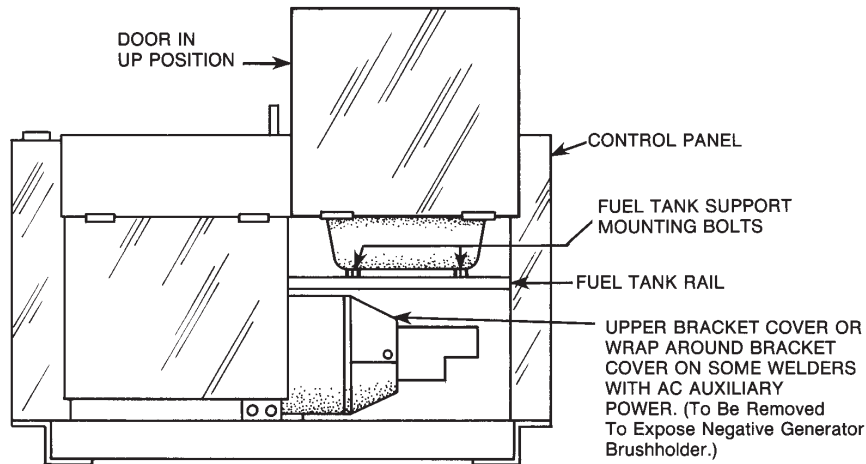
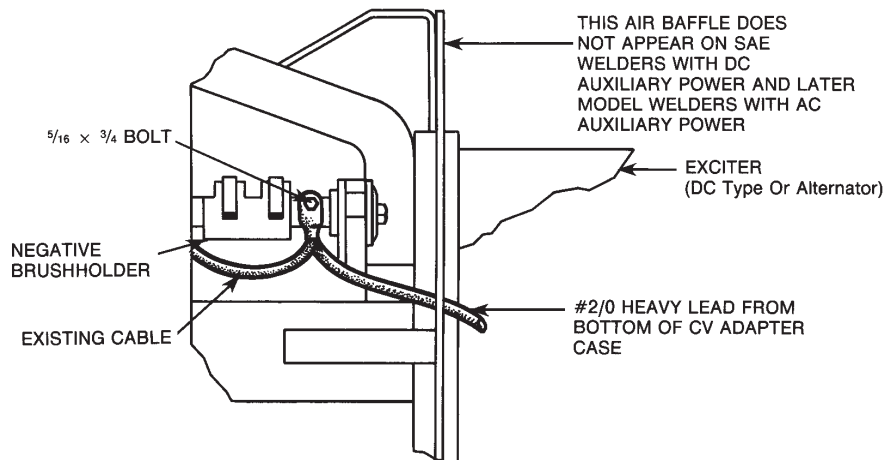

FIGURE 12 – Engine Welder (Left Side).
FIGURE 14 – View of Negative Generator Brushholder after Bracket cover is Removed.
1. Remove the upper bracket cover or the wrap-around bracket cover on older welders with AC auxiliary power. Also, remove the two fuel tank support mounting bolts on the side opposite the output terminals. See Figure 12. On the SAE-400 (with codes 10601, 10856 and 10884) and all WELD'N AIR, remove the guards mounted on the inside of the front control panel.
NOTE: FOR STEPS 13 AND 14 REFER TO FIGURES 12 AND 14.
13. The negative generator brushholder, exposed when upper bracket cover or wrap-around is removed (see Figure 12), is at the 11 o'clock position when the commutator is viewed from the control panel end of welder. Remove the 5/16 bolt which connects the existing cable to the negative brushholder. Route the #2/0 heavy lead which exists from the bottom of the CV adapter case as shown in Figure 14. Obtain a 5/16 X 3/4 bolt from the hardware sent with the CV Adapter and connect the #2/0 heavy lead which exits from the bottom of the CV Adapter case, along with the cable removed above, to the negative brushholder. The #2/0 heavy lead lug should be between the existing cable lug and the brushholder. Tape the #2/0 heavy lead to the battery lead on welders with DC auxiliary power to support lead. On welders with AC auxiliary power, tape the #2/0 heavy lead to the alternator exciter lead bundle coming from the alternator to support lead where possible.